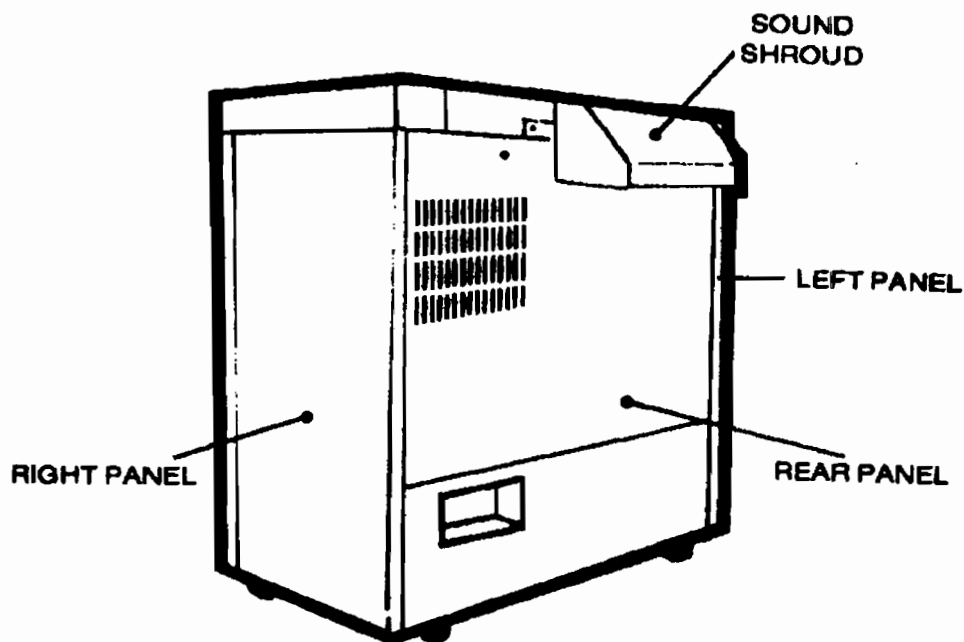

Figure 3. Panel Locations.
4. (Optional) Turn the two slotted quarter-turn allen screws holding the sound shroud to the rear panel. Lift the shroud off. (Figure 3).